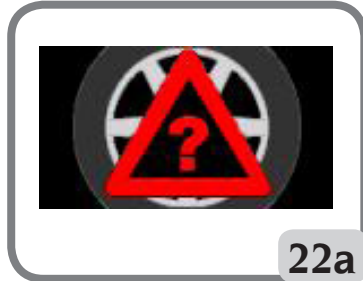

Figure 22a. Hidden Weights: procedure error
3. Select the Hidden Weight icon. If the wheel is balanced on the outer side, the machine displays the message shown in Fig. 22a on the screen.